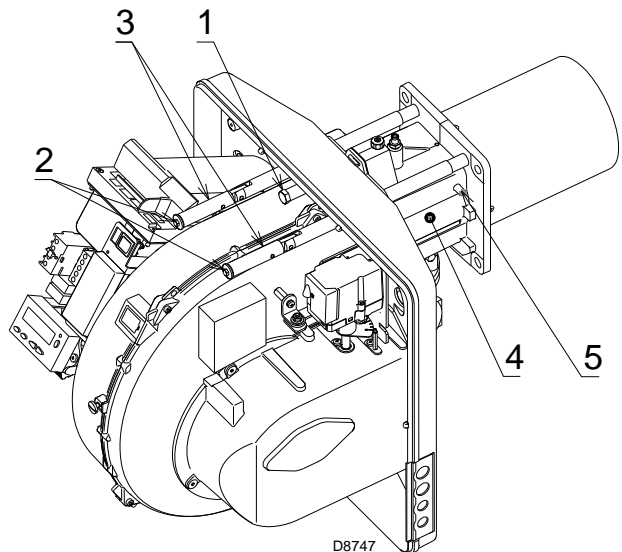

Fig. 19
- insert the probe and electrode cables, then slide the burner as far as the pipe coupling - burner in the position shown in Fig. 19;